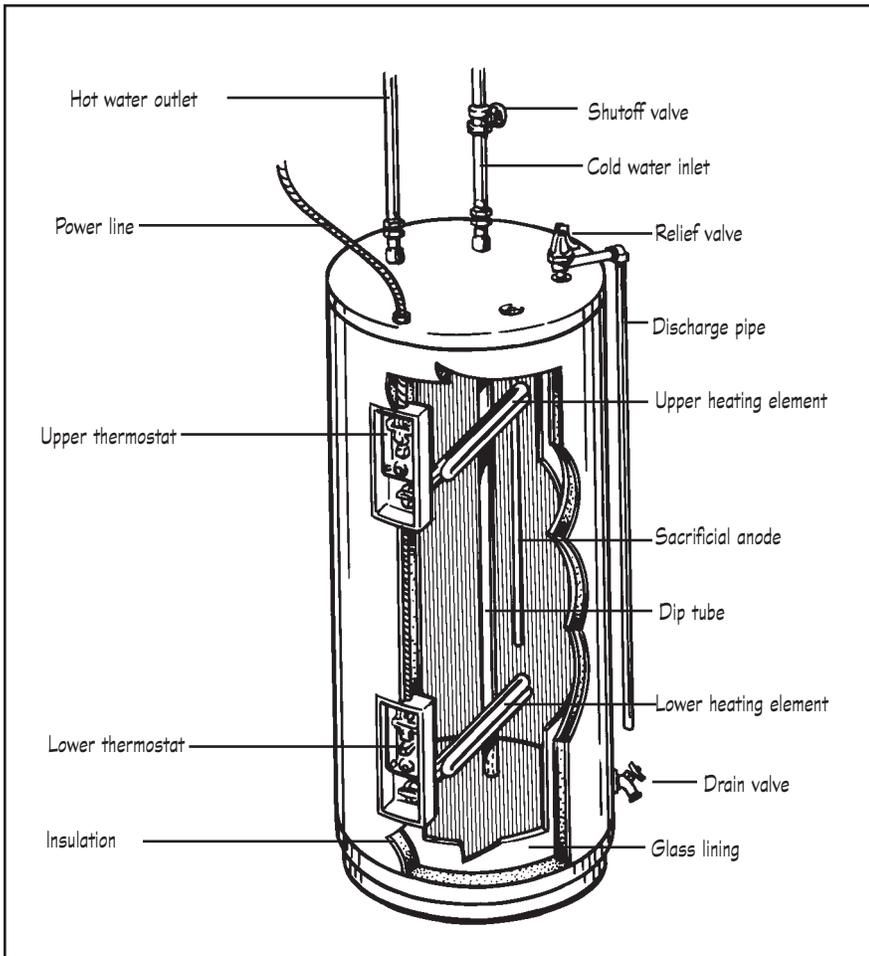

Figure 3
**Electric water heaters.** Most electric models use resistance coils inside the tank (Figure 3). Electric water heaters typically have slower recovery rates than many gas models. They make up for that with larger tanks.